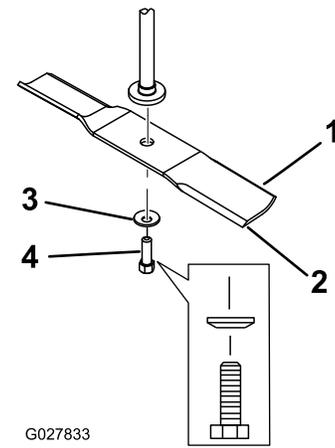

Figure 51
Hold the blade end using a rag or thickly-padded glove. Remove the blade bolt, curved washer, and blade from the spindle shaft (Figure 51).
1. Install the blade onto the spindle shaft (Figure 51).
2. Install the curved washer (cupped side toward the blade) and the blade bolt (Figure 51).